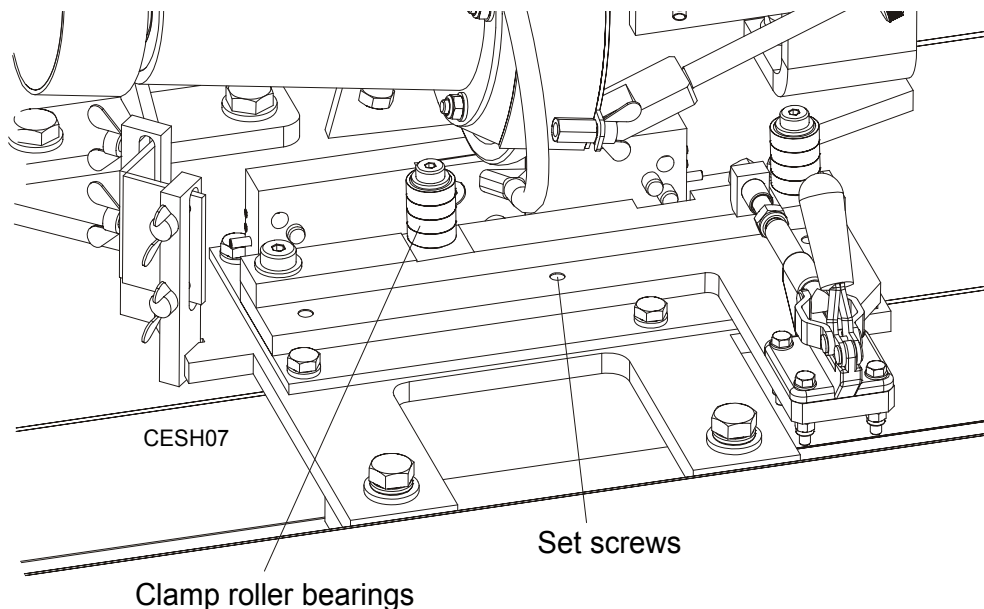

FIG. 5-1
3. Check to see that each of the four clamp roller bearings are touching the blade. If they are not, loosen the three set screws on the blade clamp mounting plate (see figure 5-1). Adjust the set screws to move the front of the plate as necessary to align the clamp roller bearings to the blade.
See Figure 5-1.